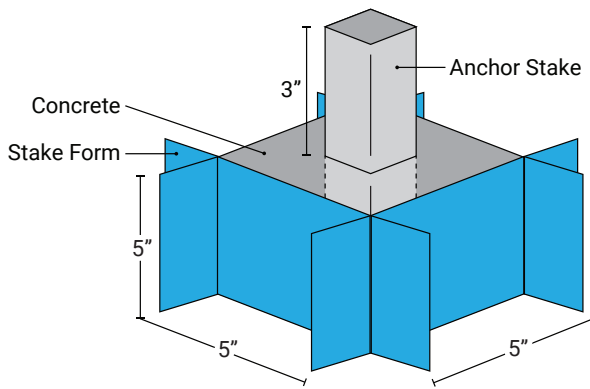

FIGURE 1
1. Pour concrete into two stake forms measuring 5" x 5" x 5" each. Insert the anchor stake in the center. The anchor stake must extend 3" from the top of the concrete surface. Figure 1.